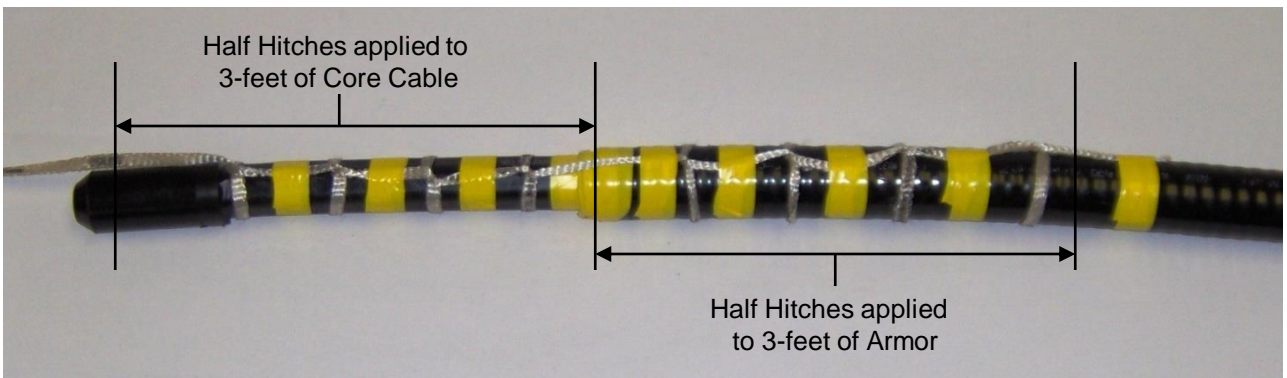

Figure 14
7.8 Install the Pulling Tape or Rope around the armor and exposed core cable with a series of half hitches. **See Fig. 14.**